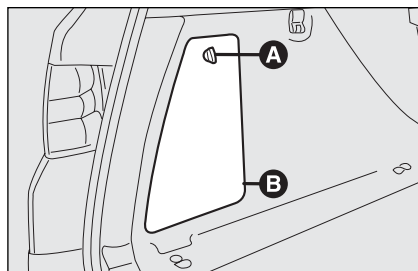

fig. 63
- ☐ turn the knob **A**-fig. 63 and open the lid **B**;